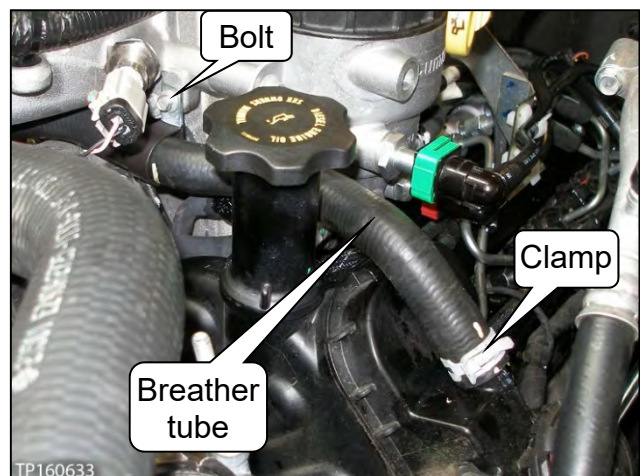

Figure 29
17. Remove the bolt, and then unclamp and disconnect the breather tube from the valve cover (see Figure 29).